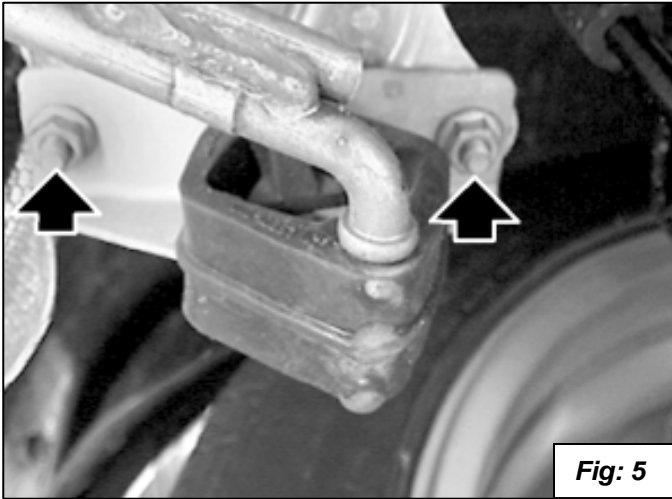

Fig: 5
- Remove the stock mufflers by unbolting the rubber hangers from the car. Each of the two hangers is held in place with two 13mm nuts. See figures 5 and 6.